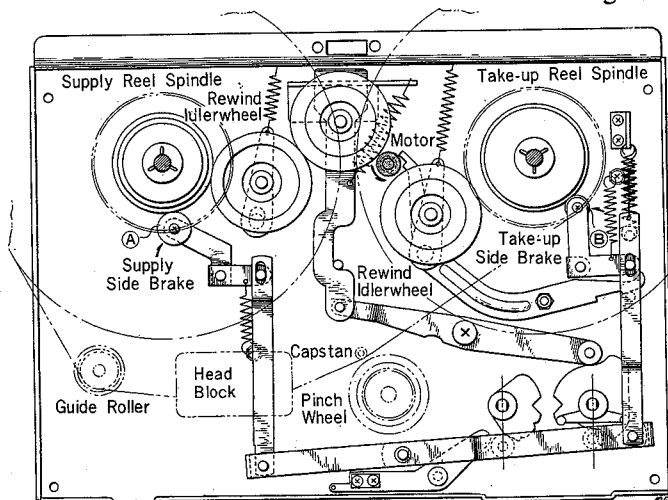

Fig. 5
Turning the stop lever to the "STOP" position, causes *Brake Rollers (A) and (B)* to depress the reel spindles and stop rotation. As the brake rubbers depress the plastic rollers below the reel spindles, no friction is applied to the tape. (See figure 5)